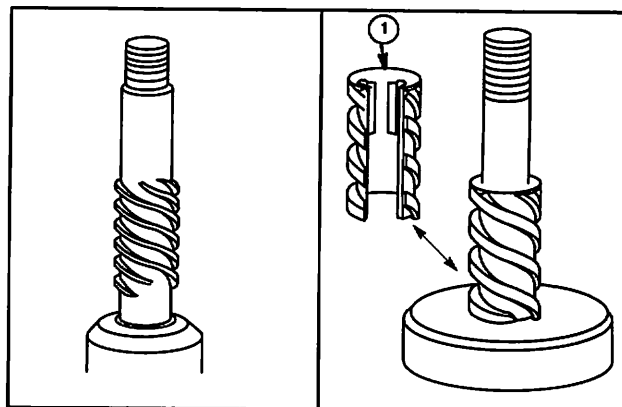

Fig. 82
Assemble Starter Motor Drive, Fig. 82
1. Reverse disassembly procedure for assembling. When assembling helix to shaft, the spline (1) must face threaded end of shaft, Fig. 82.